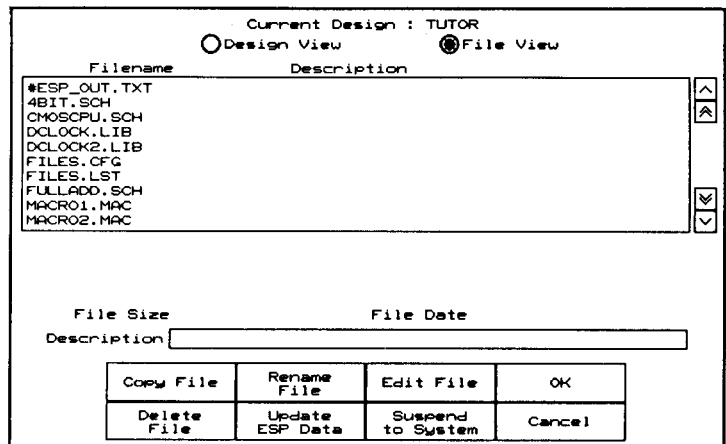

Figure 2-4. File View screen.
3. Select **File View** at the top of the screen. The screen shown in figure 2-4 displays.